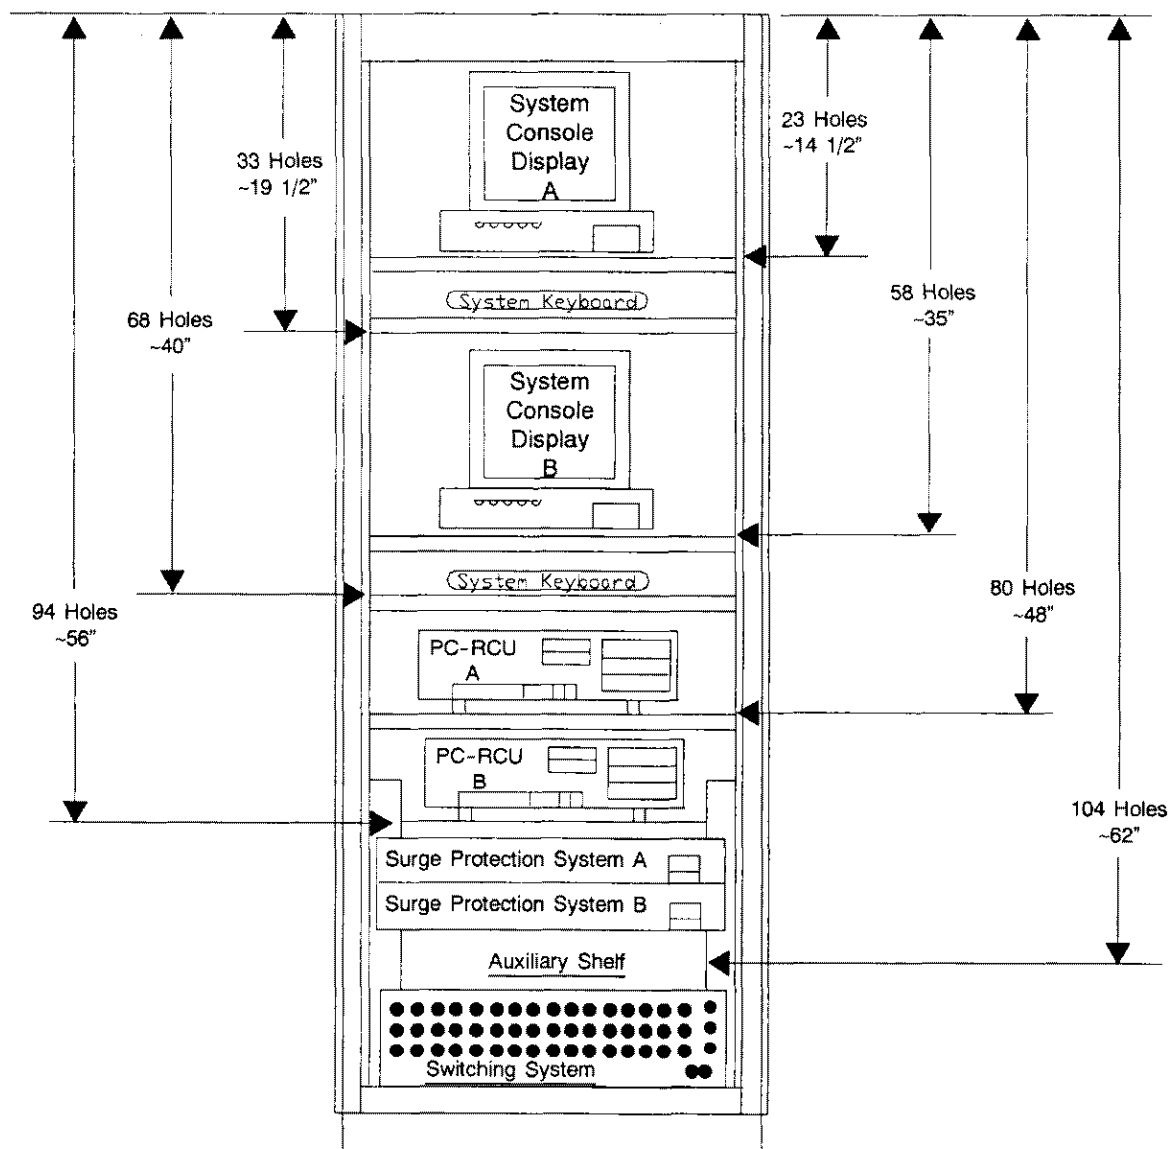

FIGURE 12-1. STANDARD 21-INCH RACK CONFIGURATION
12.1.3.1.1 Standard 21-Inch Rack Configuration. This rack configuration pertains to sites that do not have the Wespercorp 19-inch rack available. Refer to figure 12-1 for shelf placement and layout of equipment within cabinet.